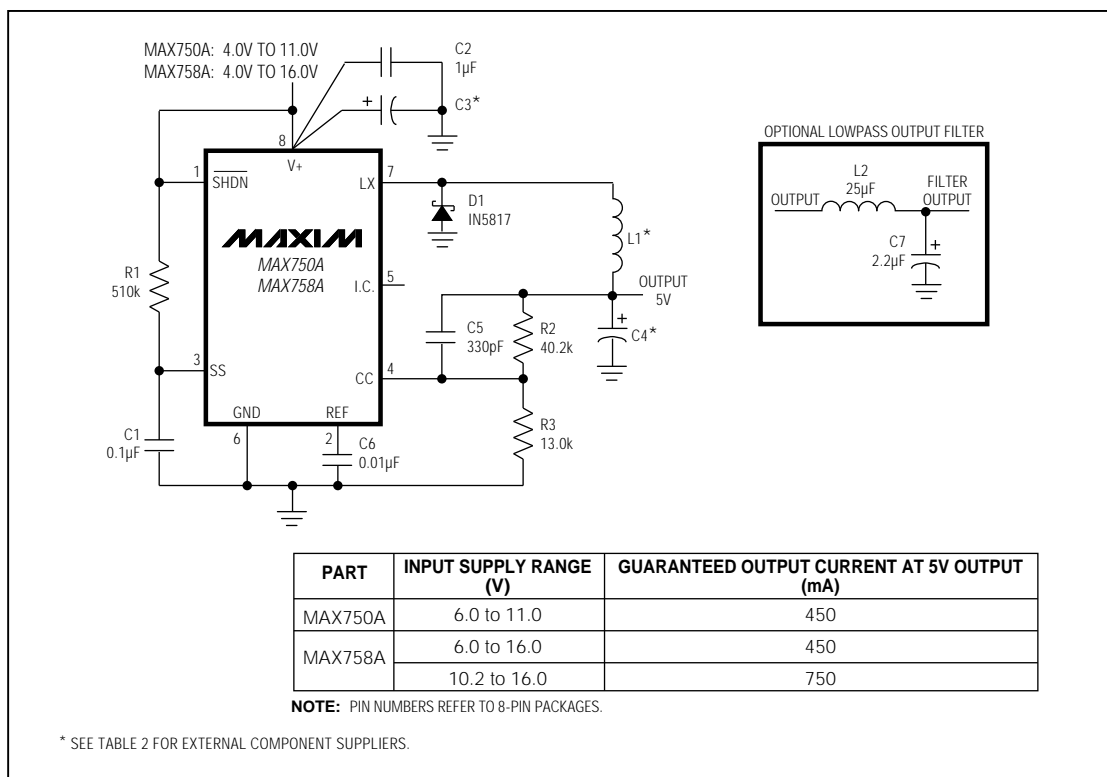

Figure 3. Standard Step-Down Circuit
Figure 3 shows the MAX750A/MAX758A configured for a standard 5V step-down application. Table 2 lists the components for the desired operating temperature range. These circuits are useful in systems that require high current at high efficiency and are powered by an unregulated supply, such as a battery or wall-plug AC-DC transformer. They will operate over the entire line, load, and temperature ranges using the single set of component values shown in Figure 3 and listed in Table 2.
The MAX750A/MAX758A have outputs adjustable from 1.25V to the input voltage. To set the output voltage, connect a voltage divider to the feedback input pin (CC) as shown in Figure 3. The output voltage is set by R2 and R3 as follows:
A simple lowpass pi-filter (Figure 3) can be added to the output to reduce output ripple to about 5mVp-p. The cutoff frequency with the values shown is 21kHz. Since the filter inductor is in series with the circuit output, its resistance should be kept to a minimum so the voltage drop across it is not excessive.